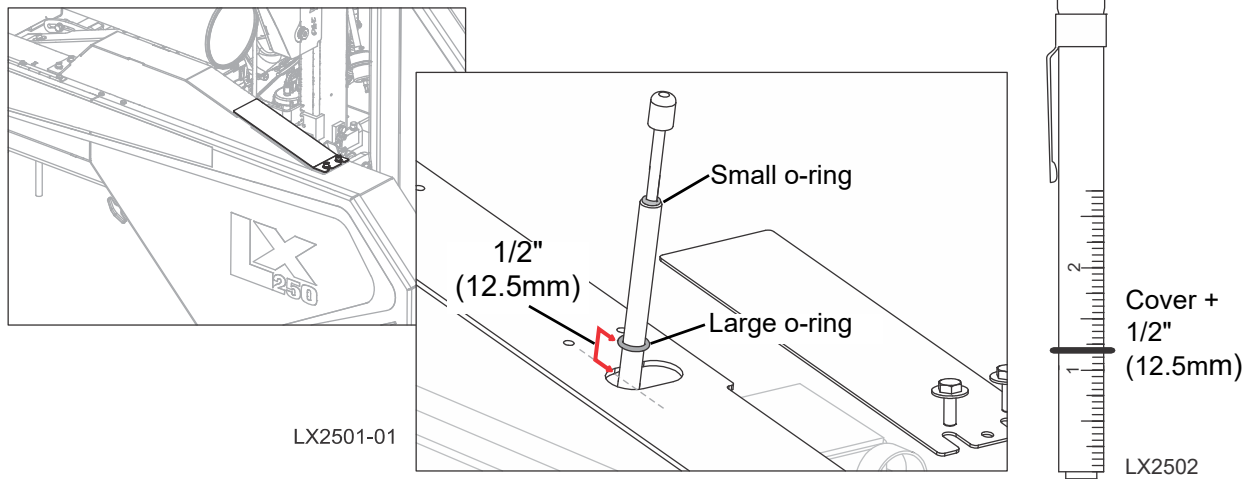

FIG. 6-4
**WARNING!** Turn the key switch to the OFF (0) position and remove the key before performing service near moving parts such as blades, pulleys, motors, belts, and chains. If the key is turned on and moving parts activated, serious injury or death may result.
**See Table 6-2.** See the table below for drive belt tension specifications. Measure the belt tension with a gauge, as shown in Fig 6-4.
See Figure 6-4.